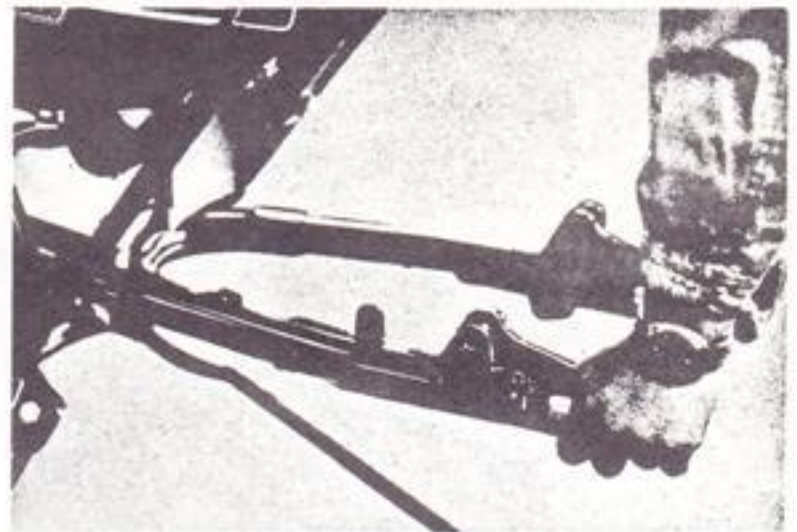

Fig. 5-8-3
- 1) Check the play of the rear swing arm by shaking it from side to side as shown in Fig. 5-8-3, with the rear swing arm installed. If the play is excessive, replace the rear swing arm bushings or the rear swing arm shaft.